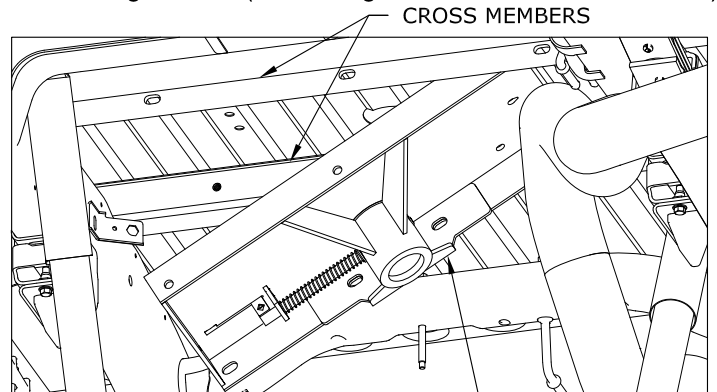
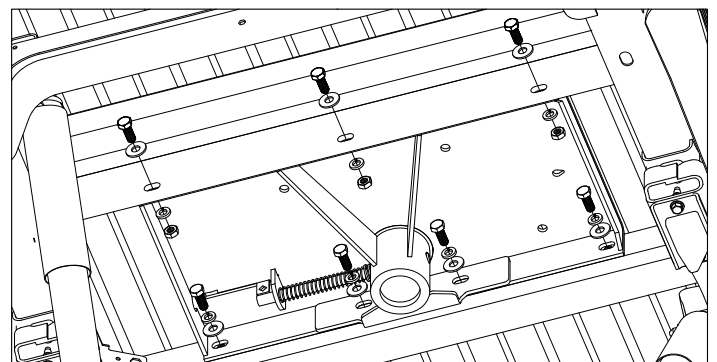

Figure B5: View under bed looking at area above axle.
Figure B6: View under bed of hardware assembly.
2. **Install Center Section.** Install the center section with the latch pin on the driver side. Raise the center section over the differential while sliding the center section over the exhaust and guiding the raised 4" circle on top of the center into the 4" hole in the truck bed floor, See Figure B5. Move rear cross member forward against the center section. Place a 1/2" flat washer on a 1/2" X 1 1/2" hex cap screw. Insert the cap screw through the rear cross member and center section, securing it with a 1/2" lock washer, and a 1/2" finish nut. Thread a 1/2" X 1 1/2" hex cap screw with a 1/2" lock washer and a 1/2" flat washer into the front cross member from the inside of the center section, See Figure B6. (Do not tighten hardware at this time)